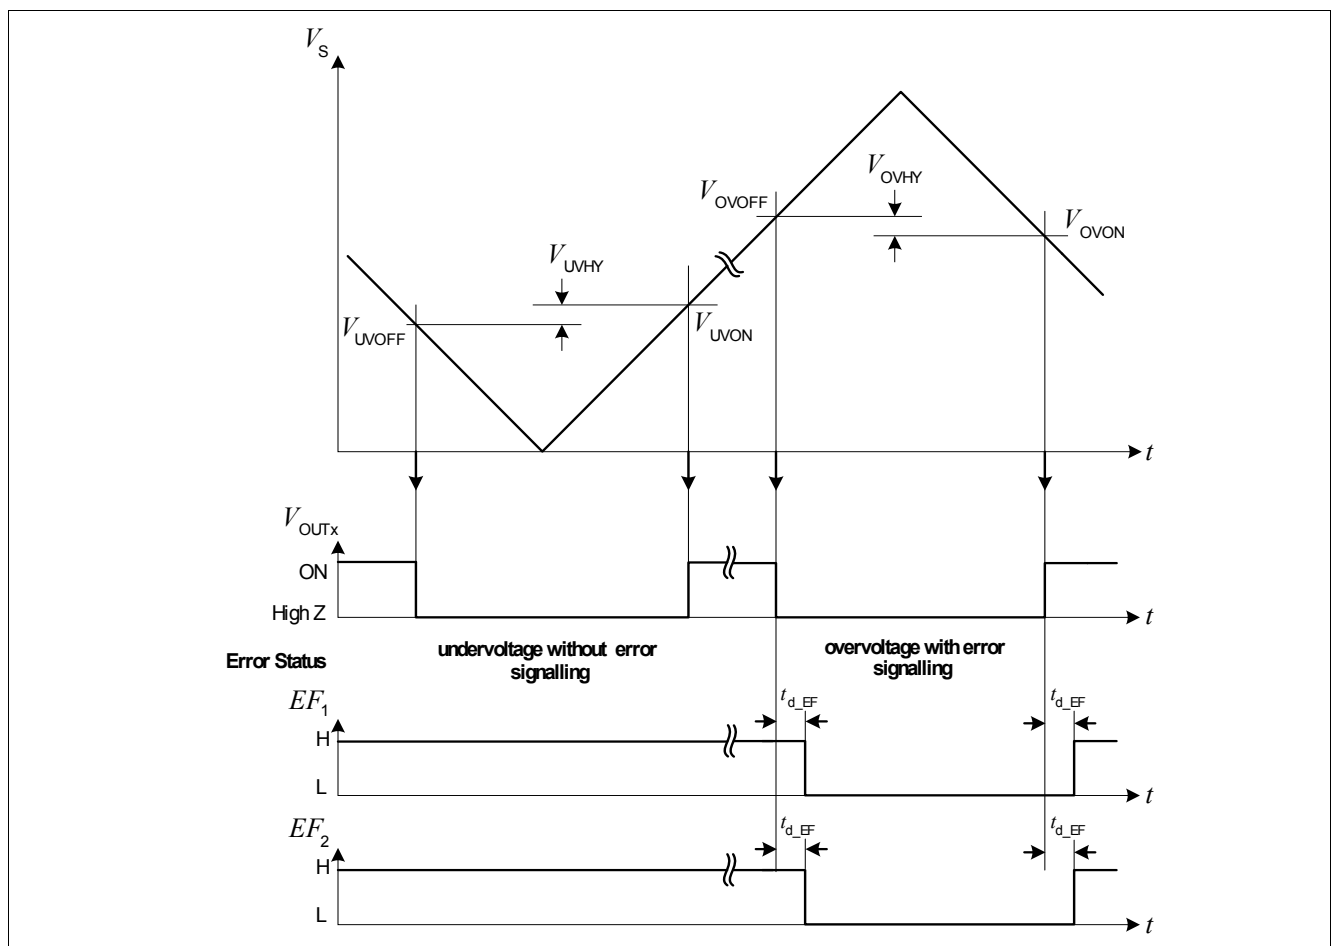
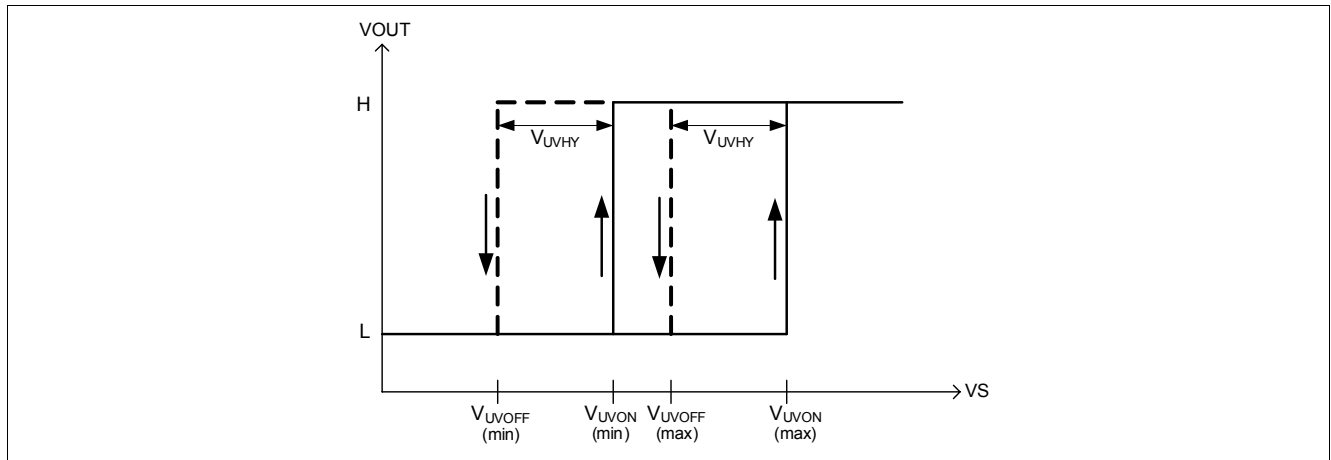

Figure 6 Error Flag behavior for the Over- and Undervoltage case
Figure 7 Undervoltage Hysteresis
- a) **Over voltage:** For voltages below the undervoltage switch OFF threshold (V_{UVOFF}) and above the overvoltage switch OFF threshold (V_{OVOFF}), the output stages will be switched OFF. The Error Flag however only signals the overvoltage switch OFF case (Figure 6). A switching hysteresis is implemented at both thresholds to allow an autorecovery mode if the supply voltage is back within the operational range.
The power supply Voltage V_S is monitored for over- and under voltage (refer to block diagram: Figure 1). Figure 6 shows the error flag signalling during an undervoltage and overvoltage situation where as Figure 7 shows the hysteresis concept implemented during undervoltage and overvoltage.